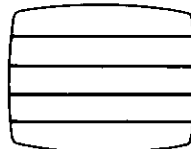
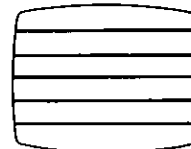

Fig. 1
Fig. 2
- The noise as shown in Fig. 1 or Fig. 2 appears during cue or review playback.